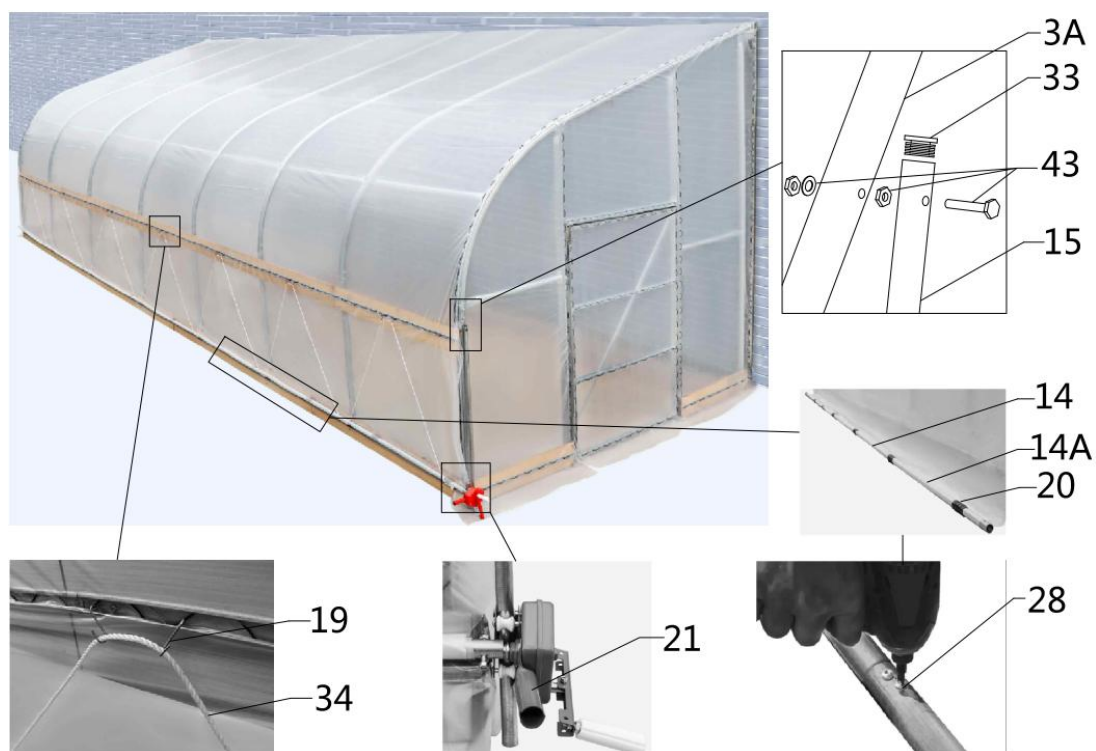

Figure 12
- To Install the film rolling machine, first fix the Film rolling machine guide tube on the lower riser-a of truss (refer to figure 12).
- A round plug (#33) is put on both ends of the film rolling machine guide tube (#15), and the guide tube is mounted on the frame with a hex bolt (#26), and it is required to swing freely. After using a self tapping screw (#28) to connect the roll film tube (#14), lay it flat on both sides of the frame. The film (#35) is wound on a roll film tube (#14), and clamped with a pressure film carrier (#20). The film rolling machine (#21) drives the roll film tube (#14) to be raised and lowered horizontally and flexibly without jamming. (refer to figure 12).
- In this step, install the film rolling machine on the film rolling machine guide tube (#15) , and the installation method is as follows : (refer to figure 12).
- Installing braided rope (refer to figure 12)
- (5) Roll film tube (#14)